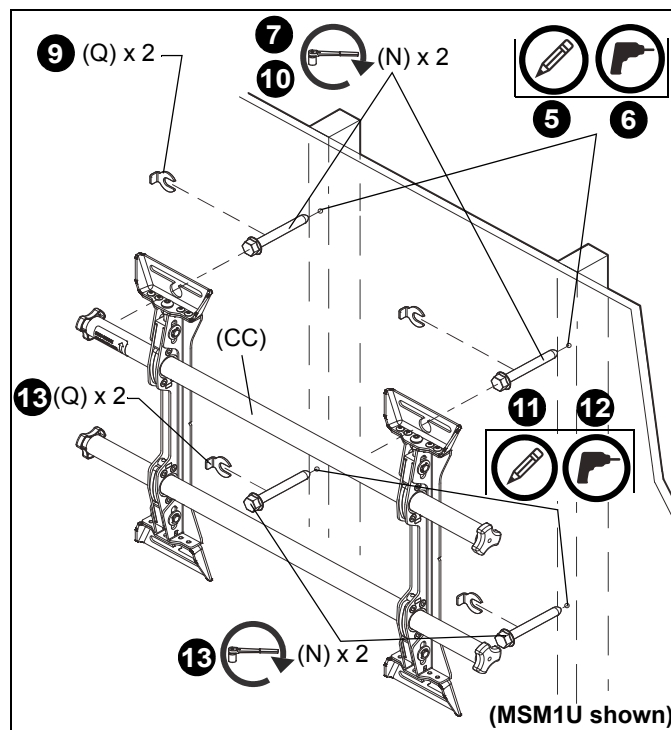

Figure 2
5. Using a level, mark the wall on each stud to attach the mount through the upper mounting slots. (See Figure 2)
7. Partially install two 5/16 x 2-1/2" flanged lag bolts (N) into pilot holes but do not tighten to wall.
8. Hang mount (CC), aligning upper mounting slots over lag bolts and adjust side-to-side for proper location.
9. Place one slotted washer (Q) over each flanged lag bolt. (See Figure 2)
10. Tighten lag bolts to secure mount (CC) to wall at upper mounting slots.
11. Mark the attachment points for the lower mounting slots, making sure the attachment points are located on the studs. (See Figure 2)
12. Drill 7/32" (5.5mm) pilot holes at markings for lower mounting holes. (See Figure 2)
13. Use two 5/16 x 2-1/2" flanged lag bolts (N) and two 5/16" slotted washers (Q) to attach the mount to the wall through the lower mounting holes. (See Figure 2)